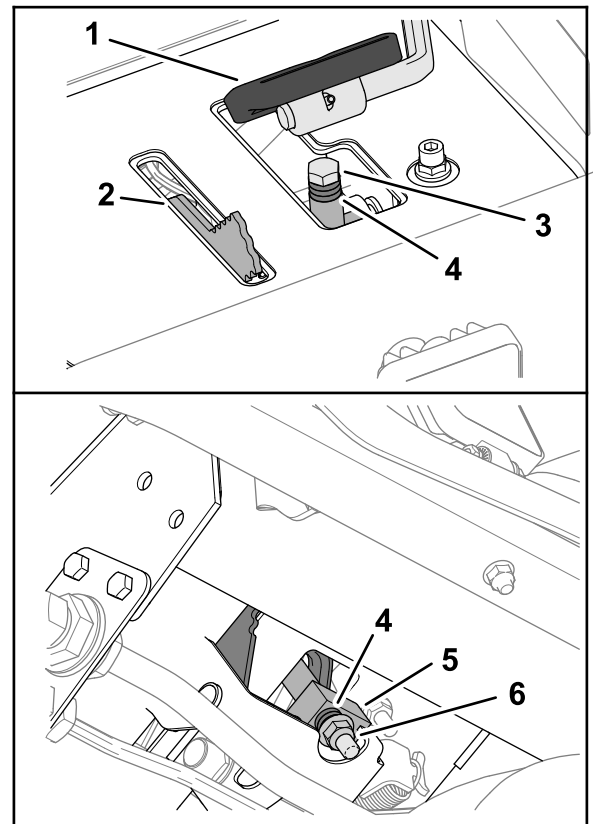

Figure 91
3. Below the traction pedal, remove the stop bolt and flange locknut that secure the spacers to the mow-stop block (Figure 91).